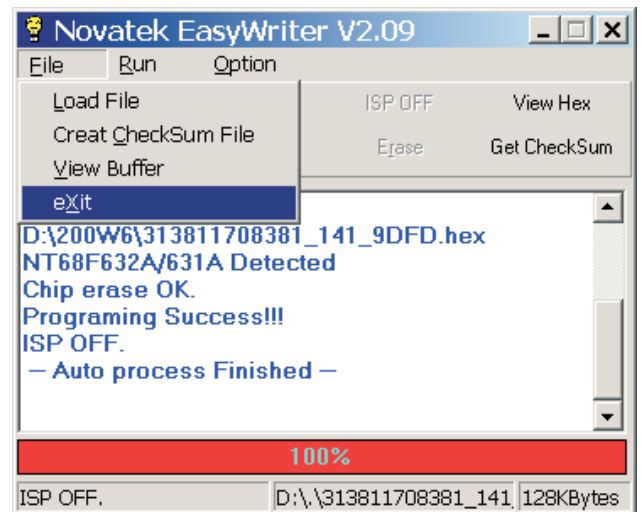

Fig. 11
4. Press the file --> exit to end program, as shown in Fig. 11.